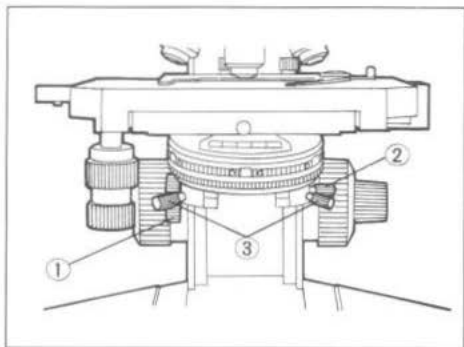
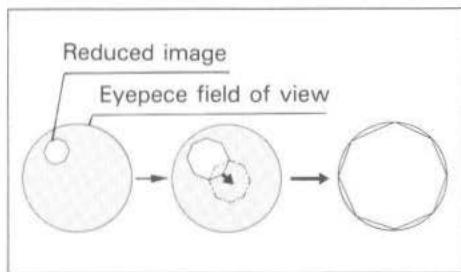

Fig. 9
Fig. 10
- (1) Lower the condenser holder all the way down by rotating the substage control knob ① on the microscope. (Fig. 9)
- (2) Loosen the clamping knob ② on the right side of the condenser holder. (Fig. 9)
- (3) Swing out the top lens of the condenser. (Fig. 9)
- (4) Insert the condenser in the mounting dovetail of the condenser holder, and press horizontally until the positioning pin of the condenser is engaged in the positioning groove of the mounting dovetail.
- (5) Tighten the clamping knob ② on the right side of the condenser holder. (Fig. 9)
- (6) Raise the condenser holder by rotating the condenser control knob ①.
- (2) Rotate the lower turret counterclockwise to disengage the polarizer from the light path.
- (3) Swing the top lens into the light path.
- (4) Rotate the aperture iris diaphragm adjustment ring clockwise to open the aperture iris diaphragm.
- (5) Fully open the field iris diaphragm of the microscope.
- (6) Place the specimen on the stage, rotate the revolving nosepiece to swing in the 10x objective, and bring the specimen into focus.
- (7) Reduce the field iris diaphragm opening of the microscope stand.
- (8) Looking through the eyepiece, move the condenser up and down to bring the reduced image into focus.
- (9) Gradually opening the field iris diaphragm, bring the reduced image into the center of the eyepiece field of view, by adjusting the condenser centering knobs ③ (Fig. 9) of the microscope body. (The reduced polygonal image of the diaphragm should become inscribed in the circle which indicates the field of view.) (Fig. 10)
- (10) After the centering is completed, continue to open the field diaphragm slightly until its image circumscribes the field of view.